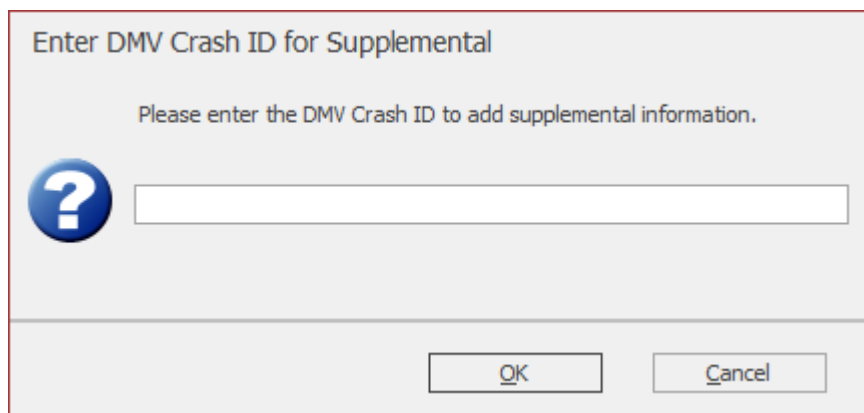

Figure 59. Enter DMV Crash ID for Supplemental
2. Select **Create Supplemental** on the Forms Manager **Tools** tab. The **Enter DMV Crash ID for Supplemental** dialog box opens, as shown Figure 59.